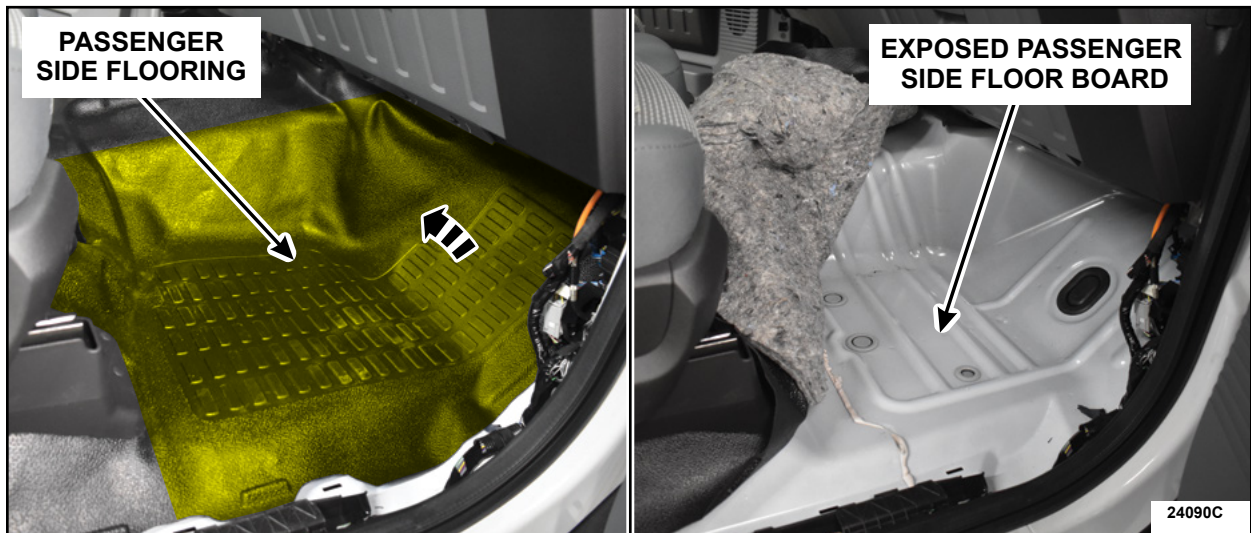

FIGURE 5
5. Position aside the passenger side flooring to expose the floor board. See Figure 5.